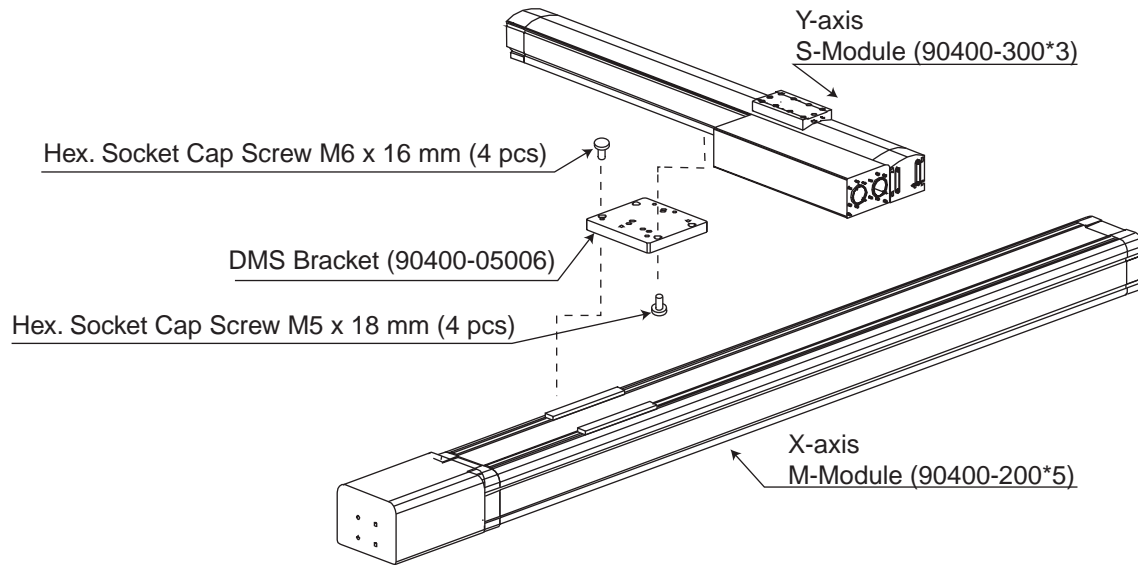

Figure 4-20. D-3 Type Mechanical Assembly
5. Mount the Y-axis to combining bracket. Install the mounting bolts (see Figure 4-20 and refer to Table 3-3 for mounting bolt specifications).